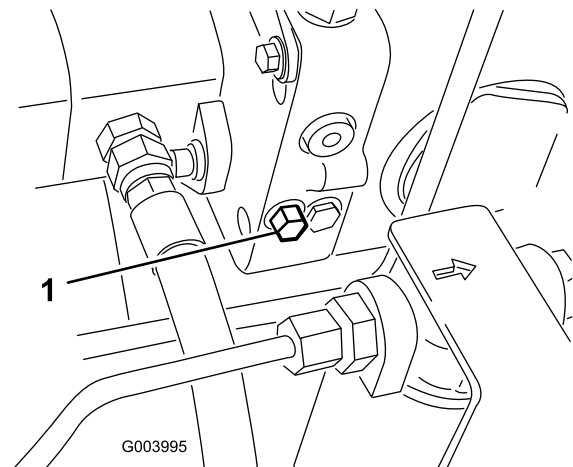

Figure 32
1. The bypass valve is located on the left side of the hydrostat (Figure 32). Rotate the bolt 1-1/2 turns to open and allow oil to bypass internally. Because fluid is bypassed, the machine can be moved slowly without damaging the transmission.